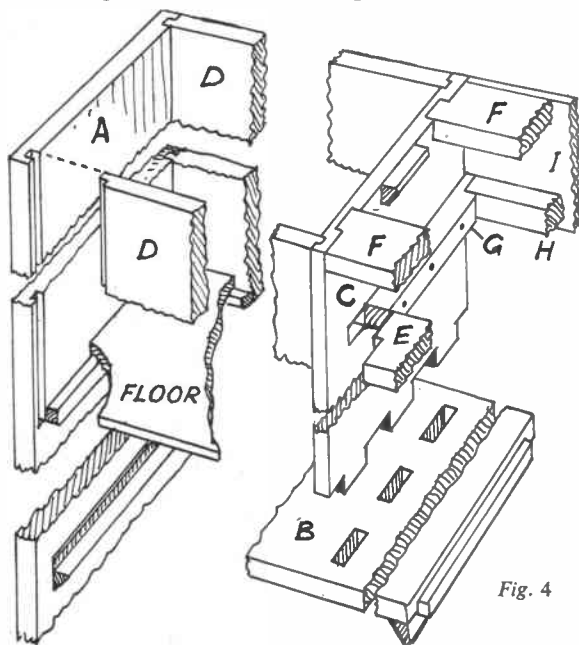

Fig. 4
$\frac{3}{4}$ in. square fillets as seen in the cut-away section in Fig. 4. The top cross-rails should be $\frac{1}{2}$ in. thick and let in half way
screwed inside the sides and along the back (I). This latter consists of $\frac{1}{4}$ in. plywood fixed to the back of rail and to (H), see Fig. 4 and Fig. 3. The top of the table, on the right, is $\frac{1}{2}$ in. thick and may be of plywood, as is also the lid of the cabinet alongside. The top is screwed to the rails and glue-blocked as seen in Fig. 3. The lid is, of course, hinged to the top as in the detail Fig. 5. On the left of the lid is screwed a block of wood to act as a lift when opening it (Fig. 5).